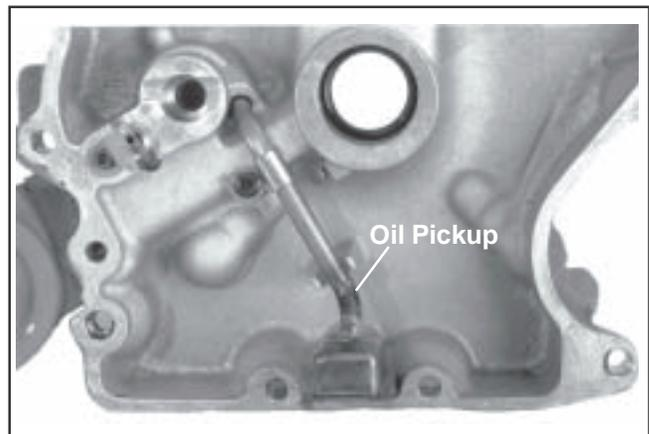

Figure 9-43. Removing Oil Seal and Pickup.
1. Remove the oil seal from the closure plate. See Figure 9-43.